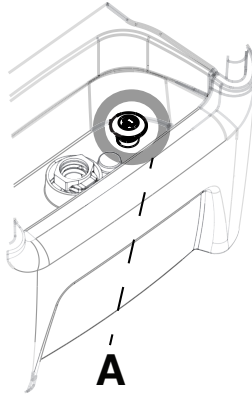

Figure 51: Drain plug
3. To drain the controller, pull up on the controller drain plug (A) to open the drain (Figure 51 on page 70). Leave the drain open.